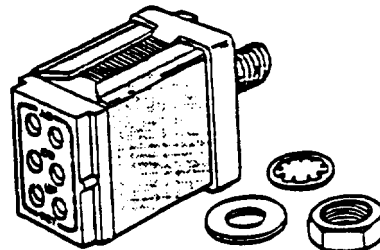

Figure 10. Grounding Terminals
24. **GROUNDING TERMINALS.** The grounding terminal is a feedback receptacle having multiple internal contacts interconnected to form one circuit that in turn is connected to an external mounting stud. Grounding terminals (Figure 10) are used where grounding or a power connection of equipment is necessary.